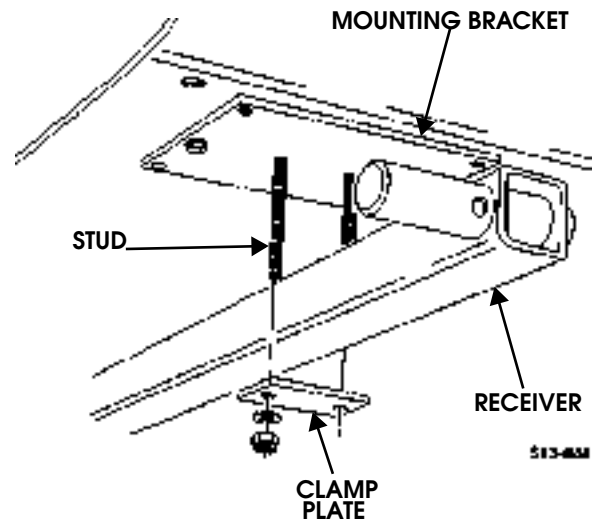

Figure 13-48: Receiver and Clamp Plate
6. Remove four nuts, washers, and two clamp plates securing two receivers to studs on mounting brackets (Figure 13-48).
- Install receiver to studs on two mounting brackets with two clamp plates, four washers, and nuts (Figure 13-48).